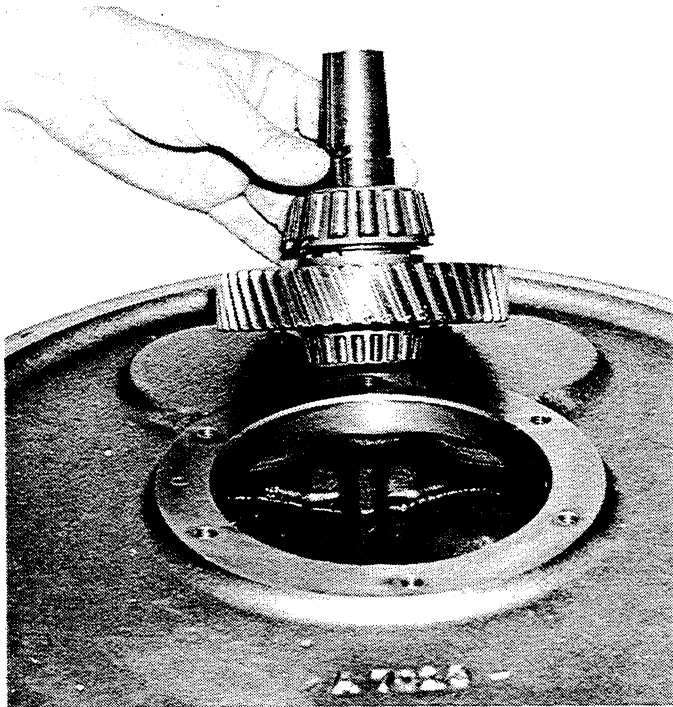

Figure 6-3. Removing the Input Shaft and Gear Assembly from Main Housing.
10. Remove the input shaft and gear assembly. See Figure 6-3.